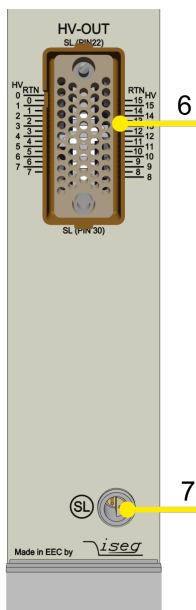
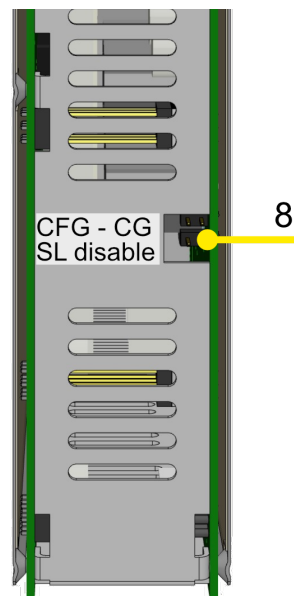
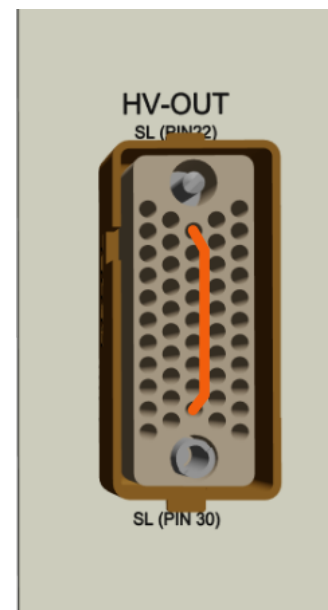

Figure 6: section of front view
Figure 7: section of back view
Figure 8: SL closed
A safety current loop can be implemented through the safety loop socket (SL) on the front panel (number 7 on Figure 6: section of front view) and, if available, on the modules with 8, 16, 24 and 32 channels at the REDEL-connector between the SL contacts (pin 22 and pin 30). When the safety loop is active, high voltage can only be generated in a channel if the safety loop is completely closed (SL plug and in the case of Redel plug, pin22 and pin30 on the plug, see Figure 8: SL closed, in the cable or on the detector supply are bridged) and an external current in a range of 5 to 20 mA of any polarity is driven through the loop. If the safety loop is opened during the operation the output voltages will be shut off without ramp, the corresponding bit in "ModuleStatus" is canceled and in "ModuleEventStatus" is set (see chapter 11 Appendix, "CAN_EDCP_Programmers-Guide.pdf"). After closing the loop again the "ModuleEventStatus" has to be reset and the channels have to be switched ON. The loop connectors are potential free, the internal voltage drop is approx. 3 V. By factory setup the safety loop is not active (the corresponding bits are always set). The loop can be activated by removing the jumper "SL-disable" on the rear side of the module (Figure 7: section of back view).